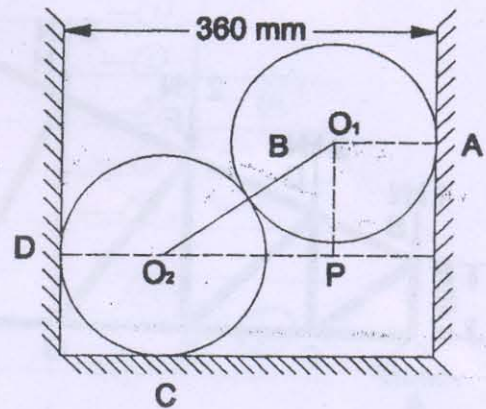

Figure 4
- Q. 2 (a) Two smooth spheres each of radius 100mm and weight 100 N rest in a horizontal channel having vertical walls, the distance between which is 360 mm. Find reactions at points of contacts A, B, C and D. shown in figure 4. 04